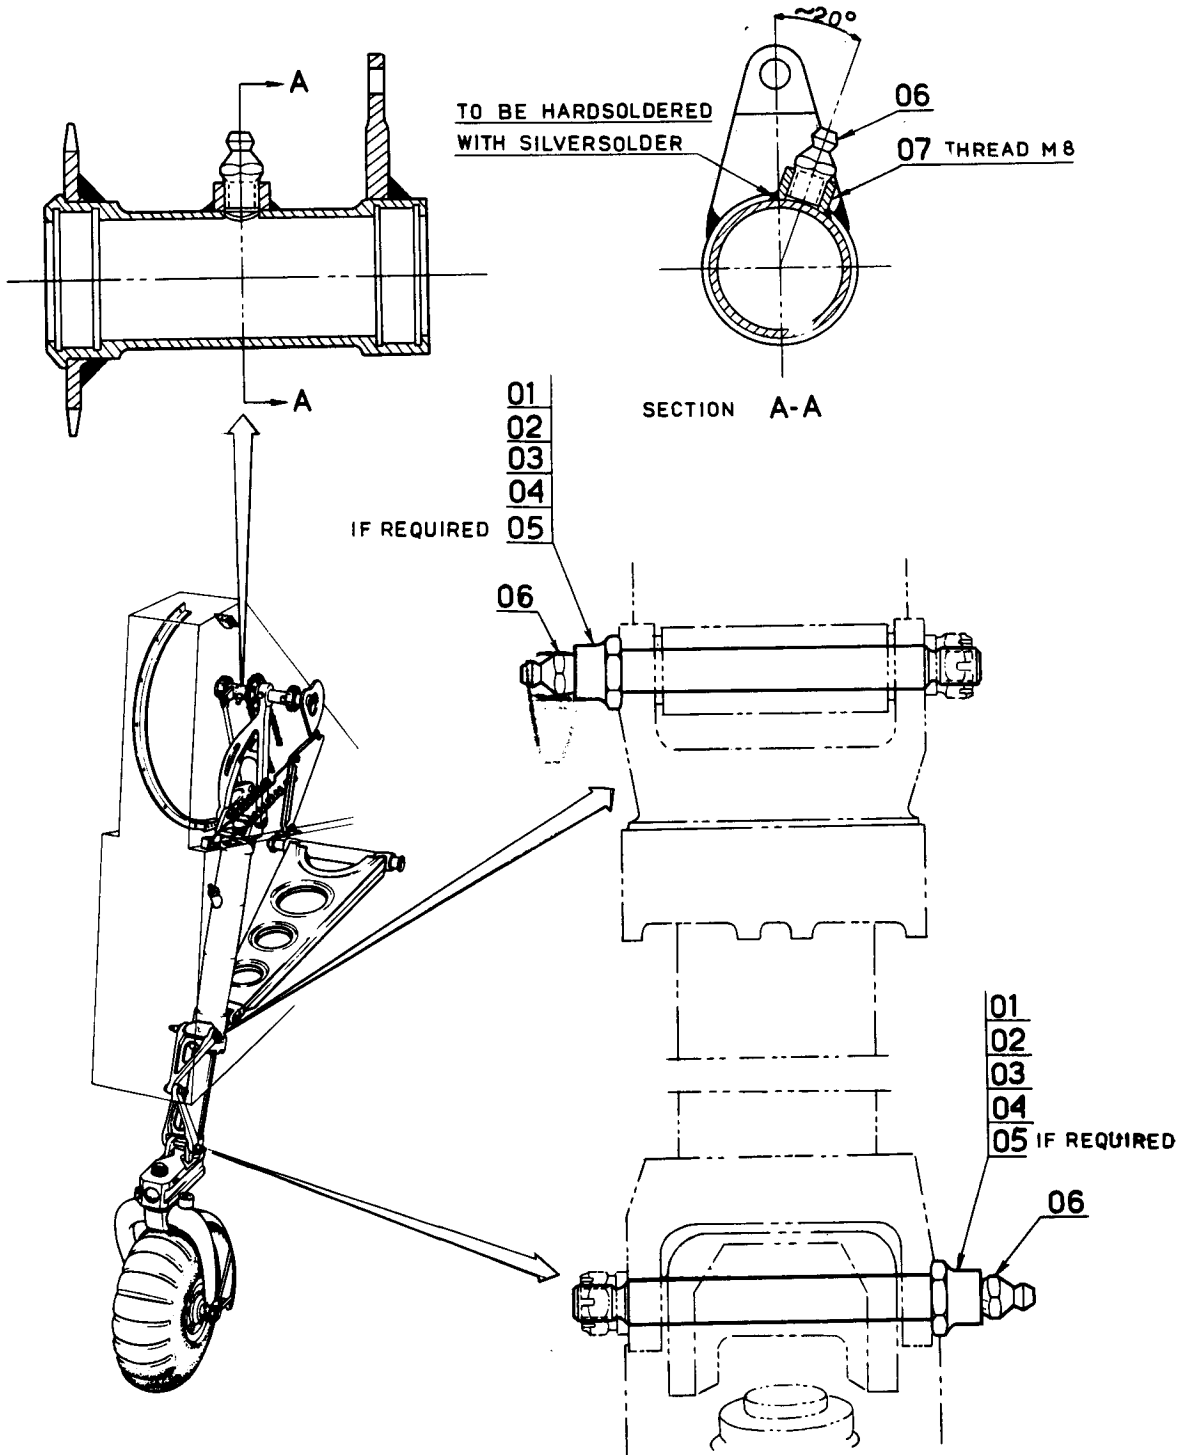

FIG.1
Item	Fig 1
Solder washer item 07 to the carrier with silver solder according to figure 1. Drill a hole  $\phi$  6.6 mm in the carrier and use washer item 07 for guiding. Remove burrs from the hole and tap M8 in washer item 07 and carrier. Fit oil nipple item 06.
Tap existing lubrication hole in the torque link lugs M4 and plug with screw AS 212119-M4x4. Fit the new bolts item 01 and nipples item 06 in direction according to figure 1. Fit washer item 05 so an axial play of 0.3 mm is obtained.